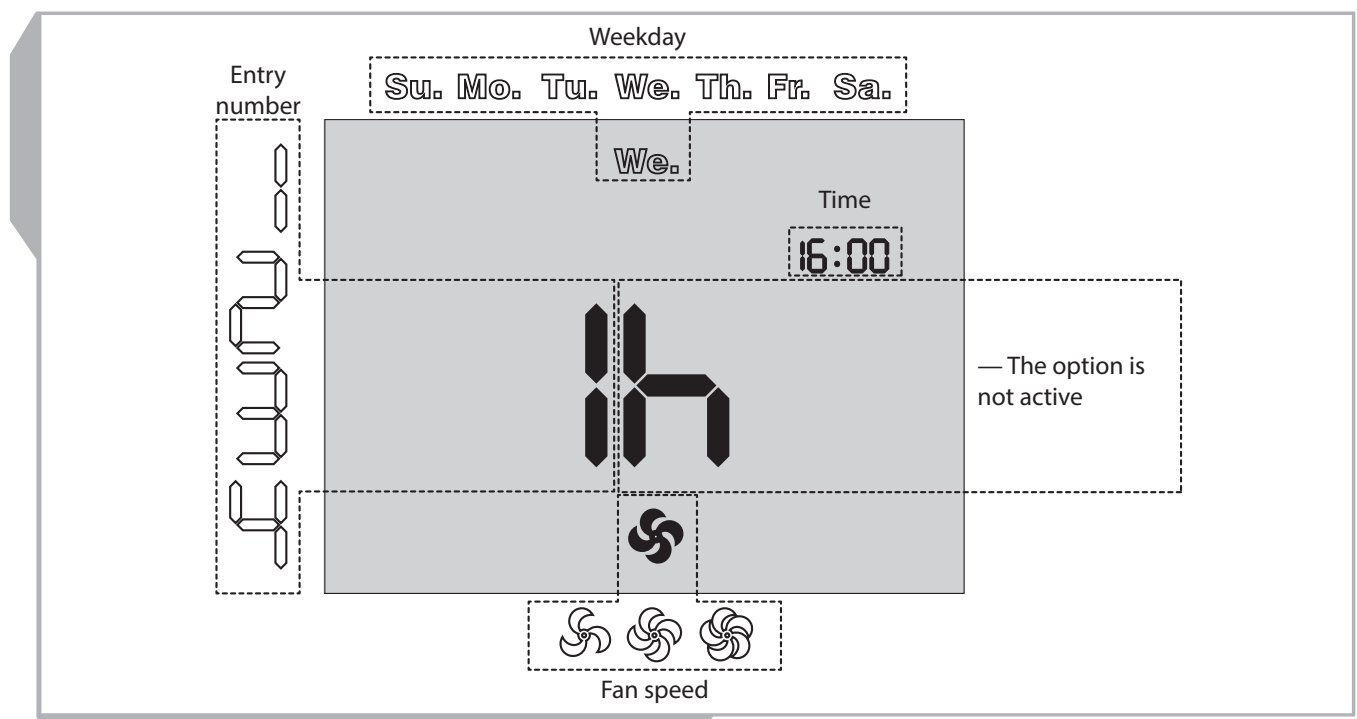

Fig. 14. Time-scheduled operation indicators
- Time-scheduled operation parameters, Fig. 14: